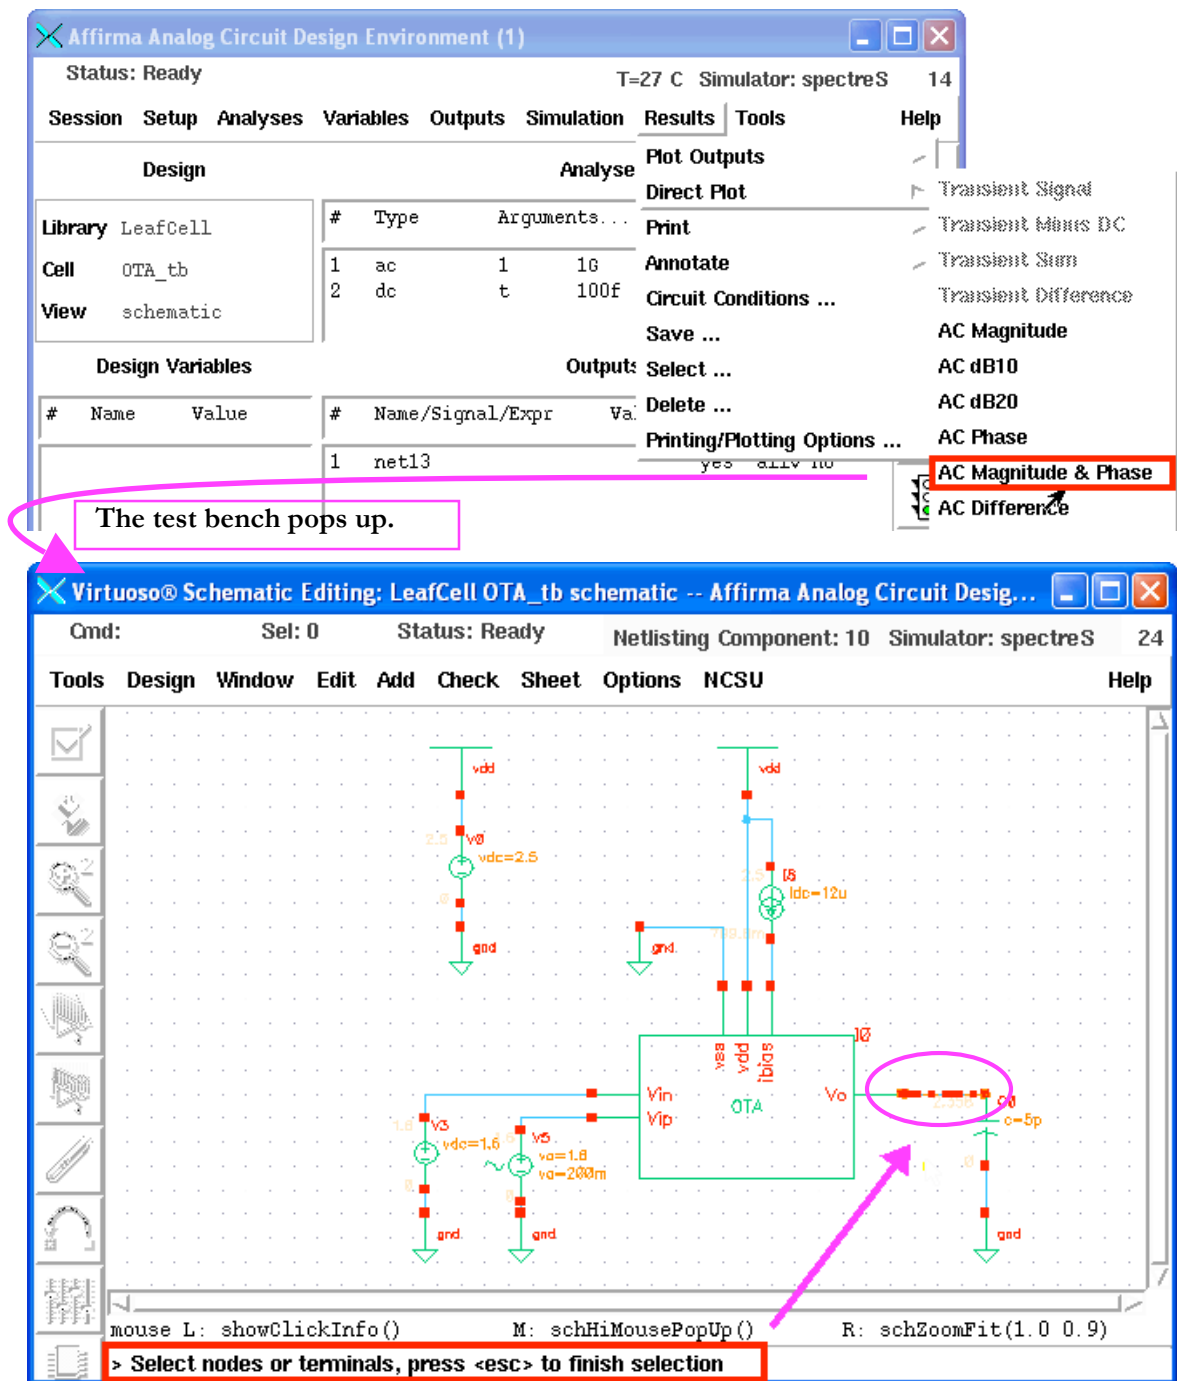

Figure 145: Plotting the Bode Plot for the output terminal.
12. To plug the Bode Plot, go back to the *Affirma Analog Environment* form, click at *Results...Direct Plot...AC Magnitude & Phase* (Figure 145).